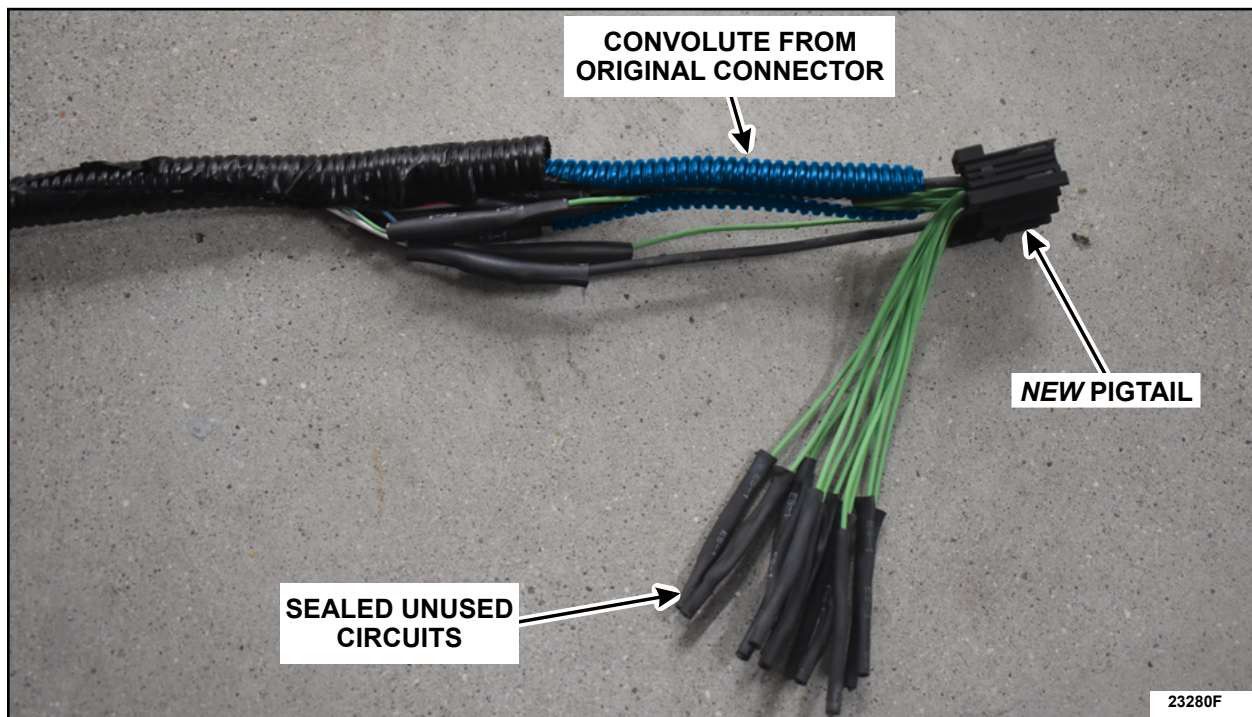

FIGURE 10
25. Install the convolute from the original connector to the pigtail wiring the and wrap using Coroplast® 837 abrasion tape or equivalent. See Figure 10.